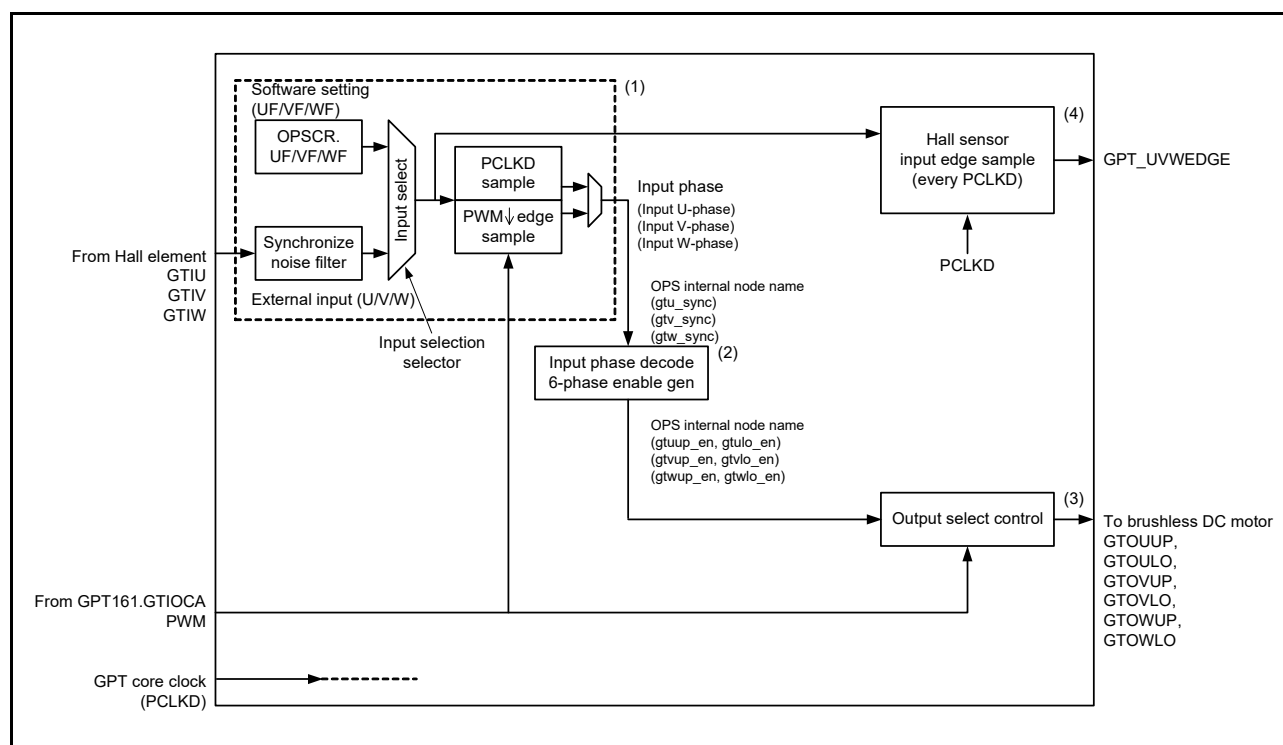

Figure 21.77 Conceptual diagram of GPT_OPS control flow
Figure 21.77 shows the conceptual diagram of GPT_OPS control flow.
In the GPT_OPS control flow conceptual diagram shown in Figure 21.77, (1) is a selection of input phase from the software settings and external input by the OPSCR.FB bit.
In the GPT_OPS control flow conceptual diagram shown in Figure 21.77, (2) enables the 6-phase signals by decoding the input phase selected by the OPSCR.FB bit. The 6-phase enable signal is used for internal processing of GPT_OPS.
In the GPT_OPS control flow conceptual diagram in Figure 21.77, (3) represents the selection of the output waveform by setting the OPSCR register bit.
In the GPT_OPS control flow conceptual diagram shown in Figure 21.77, (5) outputs the Hall sensor input signal edge to the ELC.